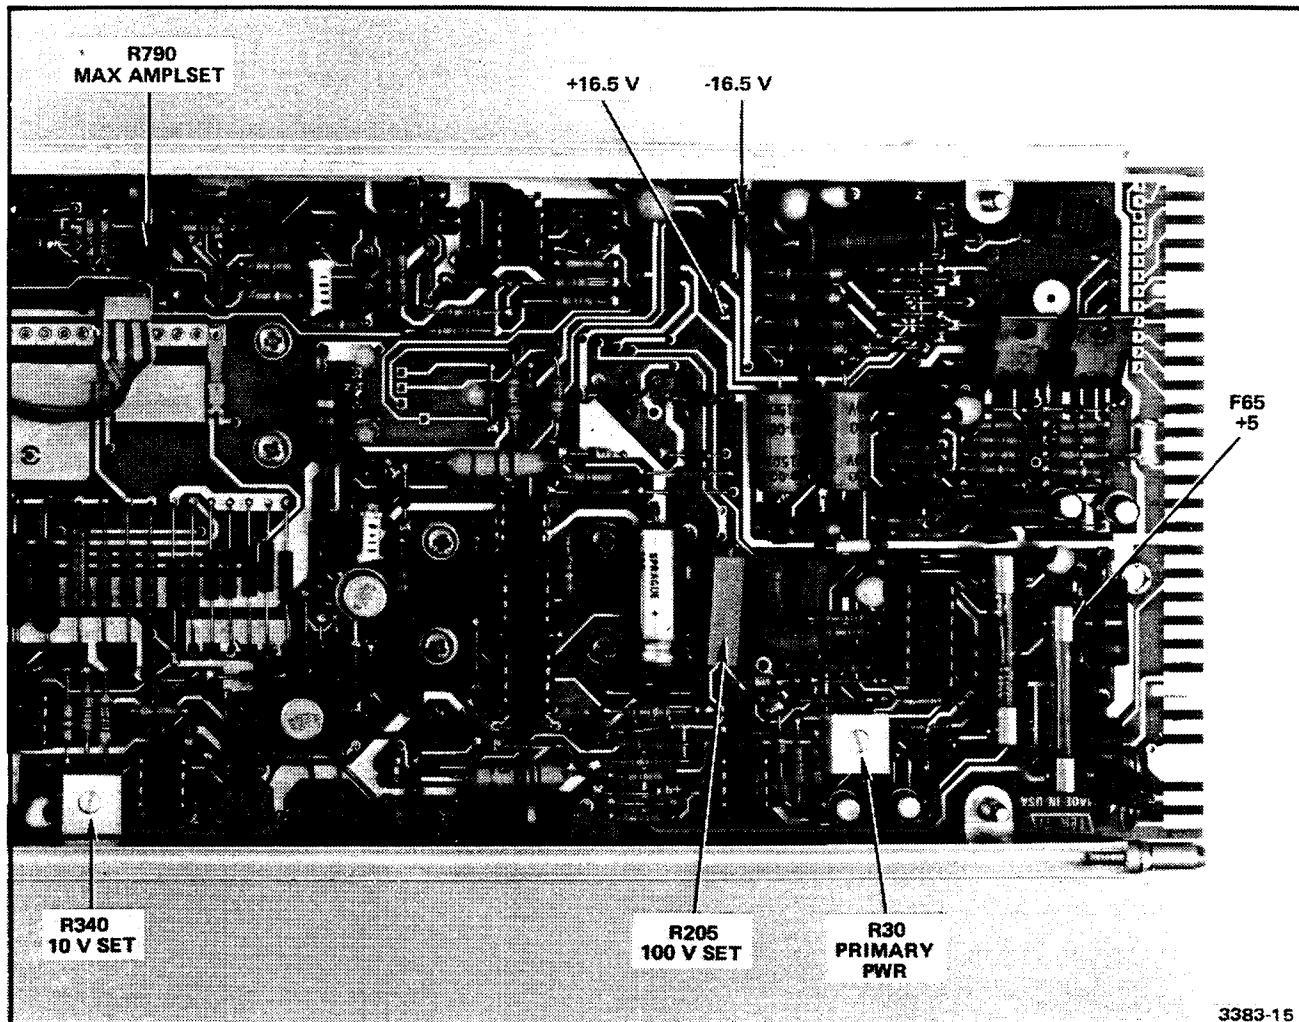

Fig. 4-5. Adjustment locations for the A1 Main circuit board.
a. Connect the voltmeter high input lead to the +16.5 V test point. Refer to Fig. 4-5.
- Connect the voltmeter high input lead to the top end of F65. Refer to Fig. 4-5.